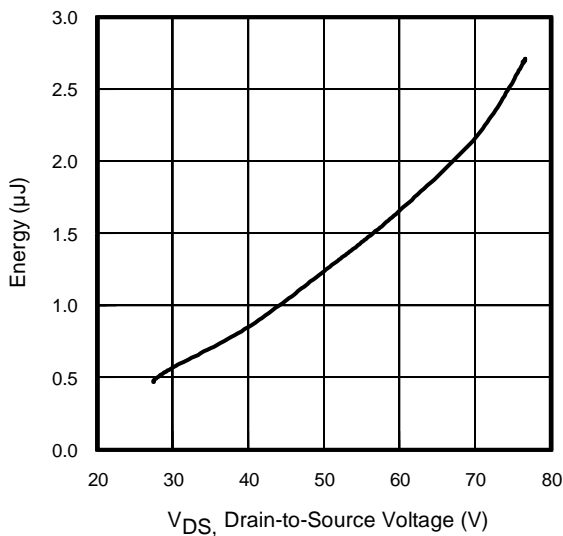

Fig 11. Typical C_{OSS} Stored Energy
| C _{oss eff. (ER)} | Effective Output Capacitance (Energy Related) ^⑦ | — | 920 | — | | V _{GS} = 0V, V _{DS} = 0V to 60V ^⑧ , See Fig.11 |